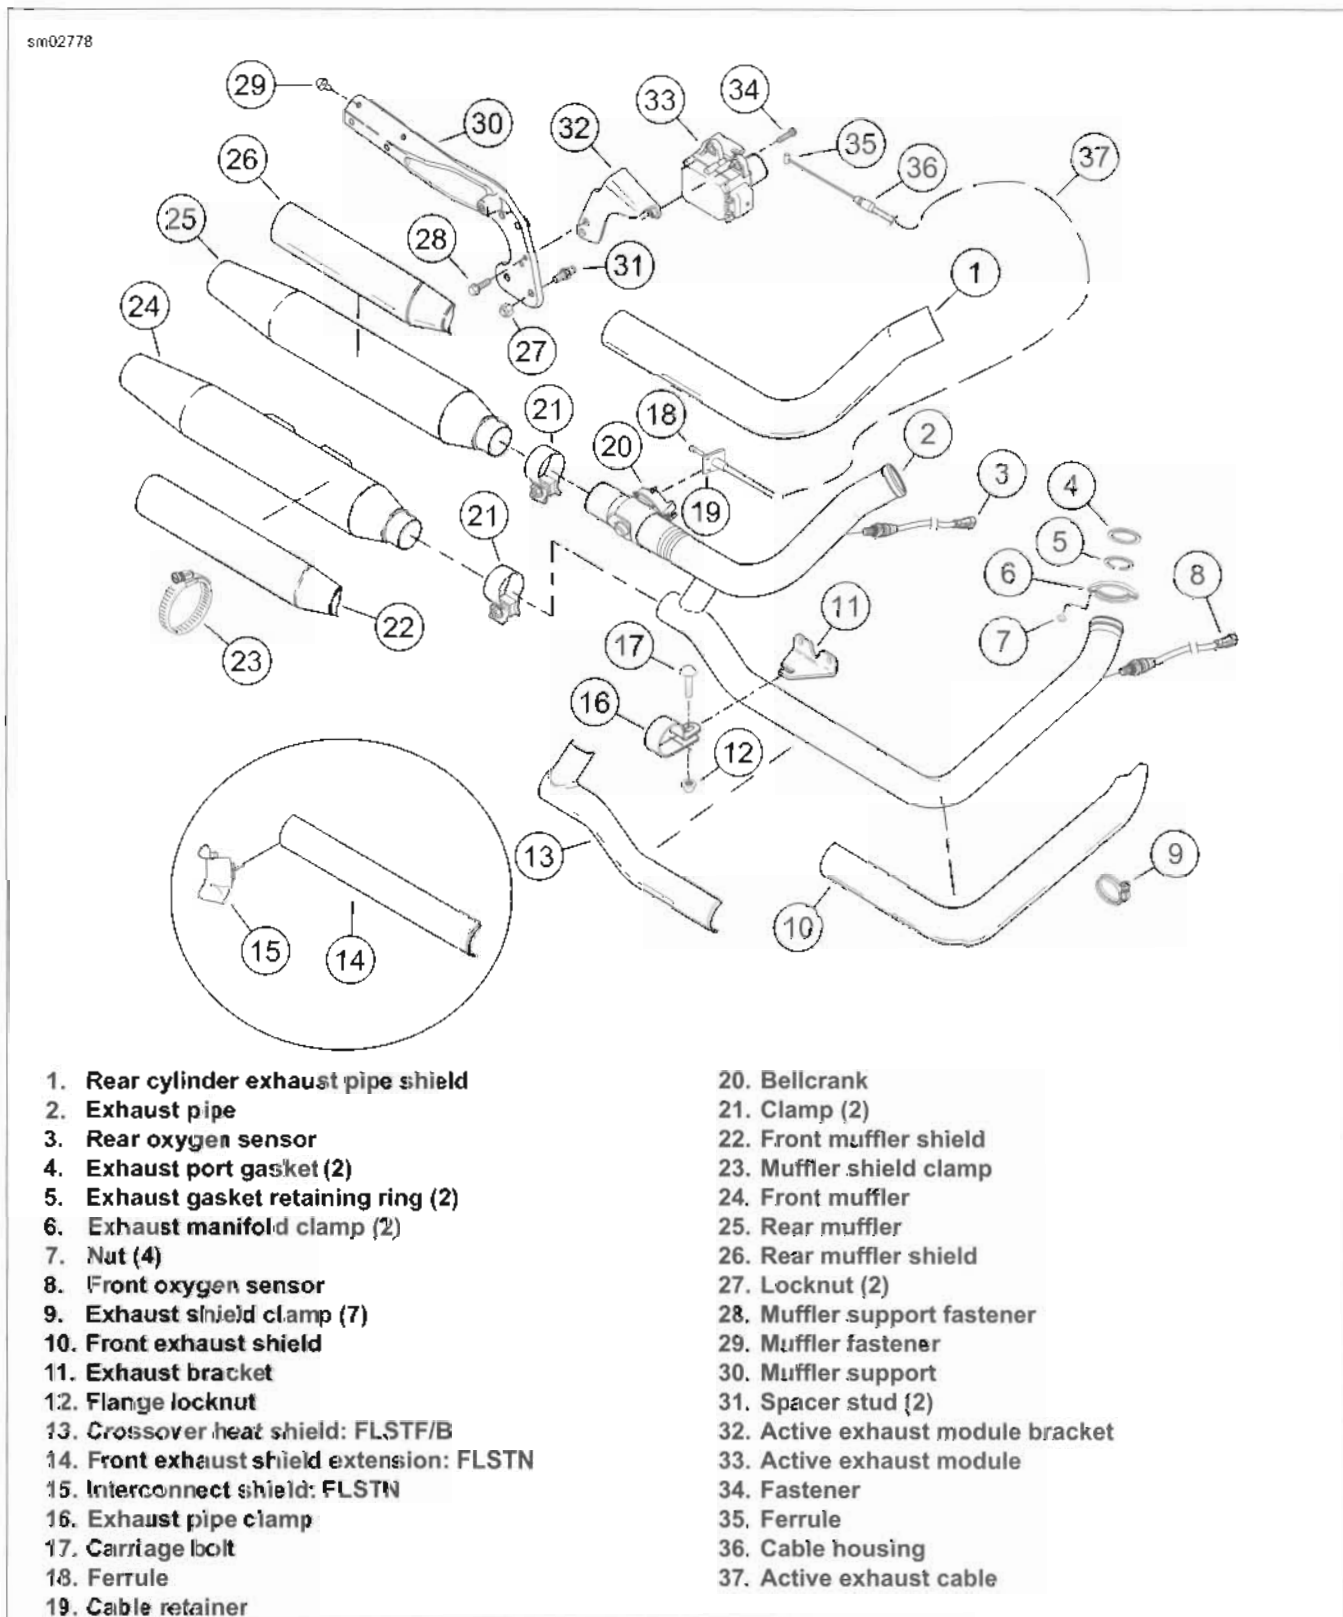

Figure 4-50. Exhaust System: FLSTF/B, FLSTN, FLS
1. See Figure 4-50. Loosen clamps (21).
2. Apply penetrating oil to seams of mufflers and exhaust pipe (2).
3. Loosen flange locknut (12) on carriage bolt (17).
4. Remove muffler fasteners (29) to detach mufflers from muffler support (30).
5. Remove muffler shield clamps (23) to detach muffler shields (22, 26) from mufflers.
1. See Figure 4-50. Place **new** clamps (21) over exhaust pipe (2).
3. Loosely attach mufflers to muffler support (30) using muffler fasteners (29).
4. Loosely install flange locknut (12) on carriage bolt (17).
- b. Tighten flange locknut (12) on carriage bolt (17) to 20-25 ft-lbs (27.1-33.9 Nm).
6. Open muffler shield clamps (23) and install the muffler shields (22, 26). Position clamps so the screws are on the outboard side in the most accessible position.
3. See Figure 4-50. Detach heat shields (1, 10, 13, 14, 15) from exhaust pipe (2) by removing clamps (9).
4. Remove all four exhaust header nuts (7).
5. Loosen flange locknut (12) from carriage bolt (17). Slide exhaust pipe clamp (16) from the exhaust bracket (11).
6. Remove two locknuts (27) and bolt (28) to detach exhaust system from frame.
See Figure 4-50. Replacement cylinder head exhaust port gaskets (4) are tapered internally. Be sure the tapered side is facing exhaust pipes. Also check condition of retaining ring (5) before installation.
1. Install **new** gaskets (4) in both the front and rear cylinder heads with the tapered side facing exhaust pipes.
2. Position ends of exhaust pipes into front, then rear cylinder head exhaust ports placing holes in exhaust manifold clamp (6) over cylinder head exhaust studs. Loosely thread on flange nuts (7).
3. Loosely attach exhaust system to frame using locknuts (27).
4. Loosely attach exhaust pipe clamp (16) to exhaust bracket (11) using flange locknut (12) and carriage bolt (17).
6. Tighten flange locknut (12) on carriage bolt (17) to 20-25 ft-lbs (27.1-33.9 Nm).